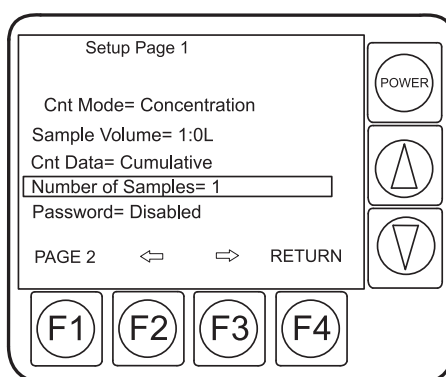

Figure 12 Setup screen with number of samples selected
1. Press **F2** (Setup) on the Main screen. The Setup Page 1 screen is displayed with the Count Mode field selected (refer to Figure 12 on page 22).